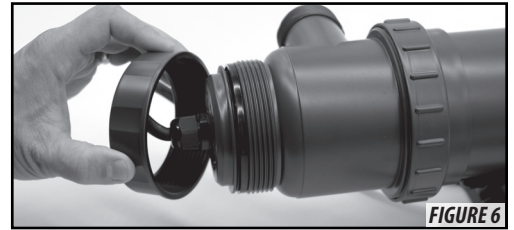

FIGURE 6
1. Unscrew threaded cap from unit. (FIGURE 6)